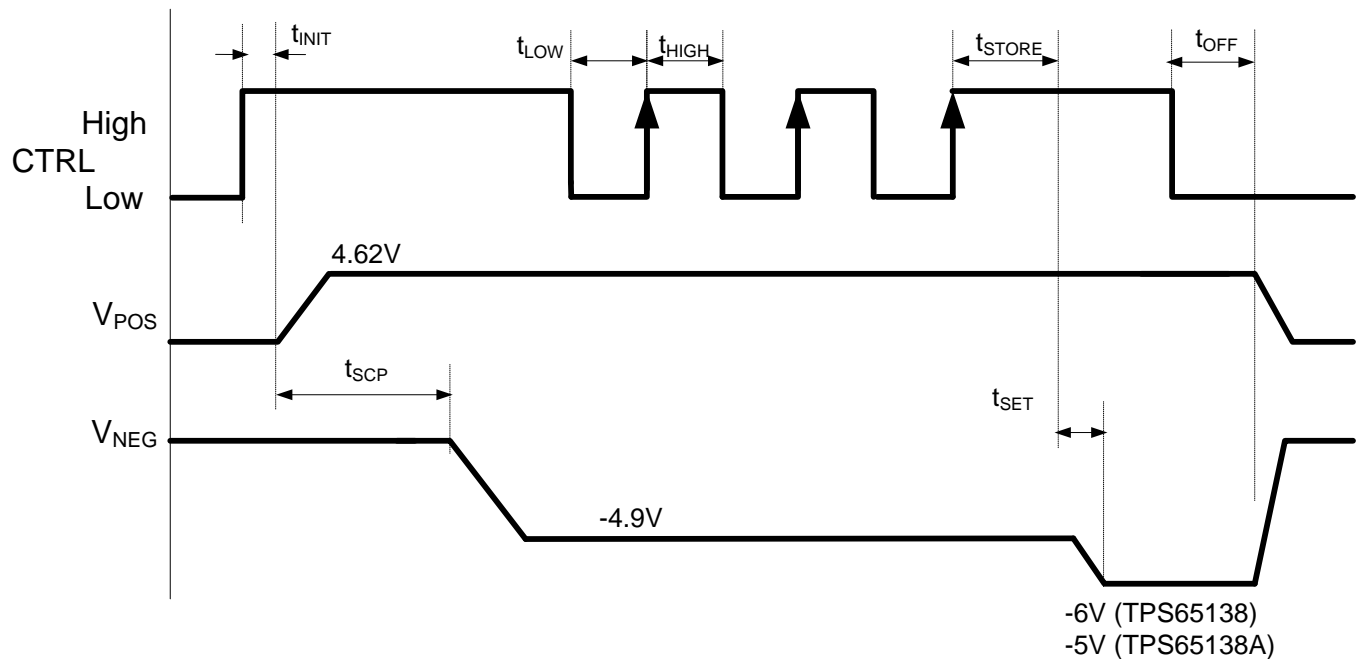
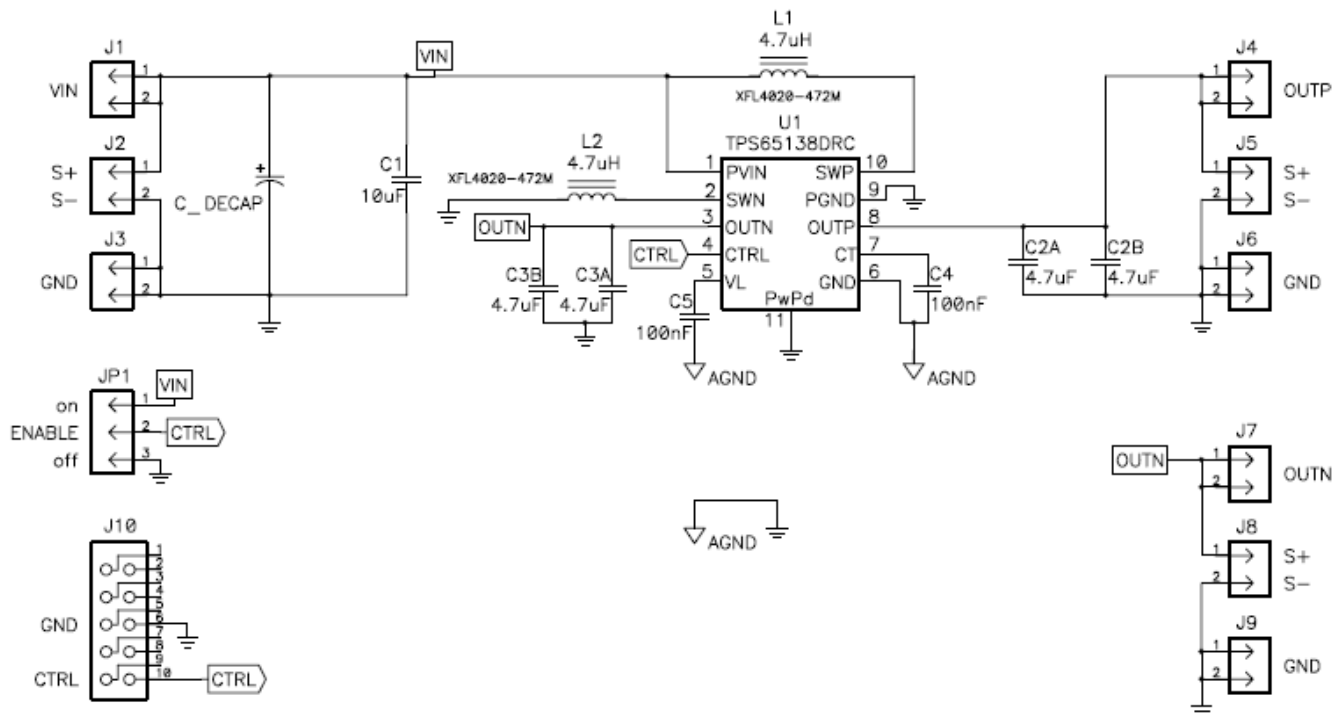

Figure 9. Digital Interface Using CTRL
Figure 12. Schematic of Board Layout Example
The digital interface allows programming the negative output voltage V_{NEG} in digital steps. If the digital output voltage setting is not required then the CTRL pin can also be used as a standard enable pin. The digital output voltage programming of V_{NEG} is implemented by a simple digital interface with the timing shown in Figure 9.
- Changed the TYPICAL CHARACTERISTICS. Deleted Figure 2, Figure 3, Figure 9 through Figure 12 7
- Changed Figure 9 10